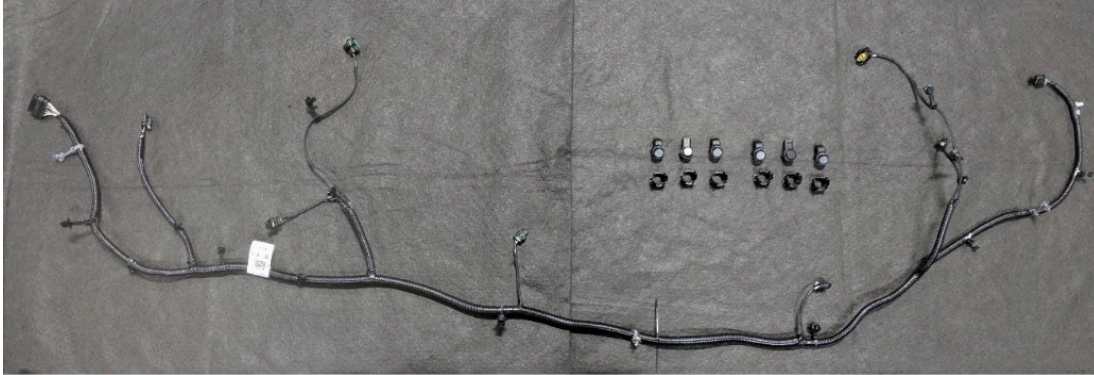

Figure 12
13. Remove the factory wiring harness and set aside. (Figure 12)